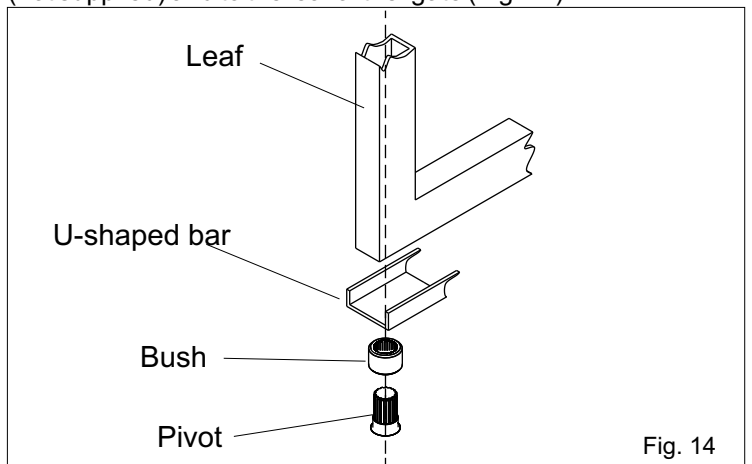

Fig. 14
- 4.2. Go back about 5° and weld the bush to the U-shaped bar (not supplied) and to the leaf of the gate (Fig. 14).